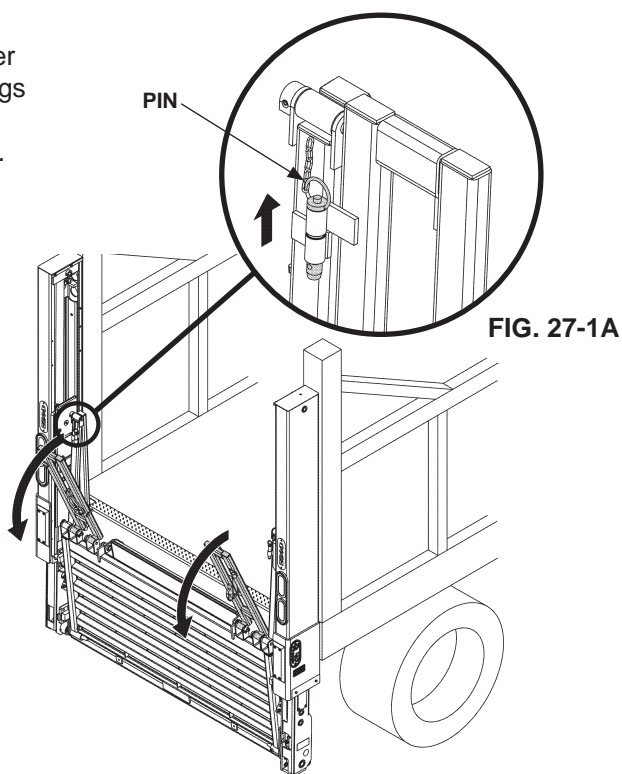

FIG. 27-1B
2. Remove pin (**FIG. 27-1A**) on each side of platform to unlock platform railing. Lower the railing until it hangs over the platform as shown in **FIG. 27-1B**.